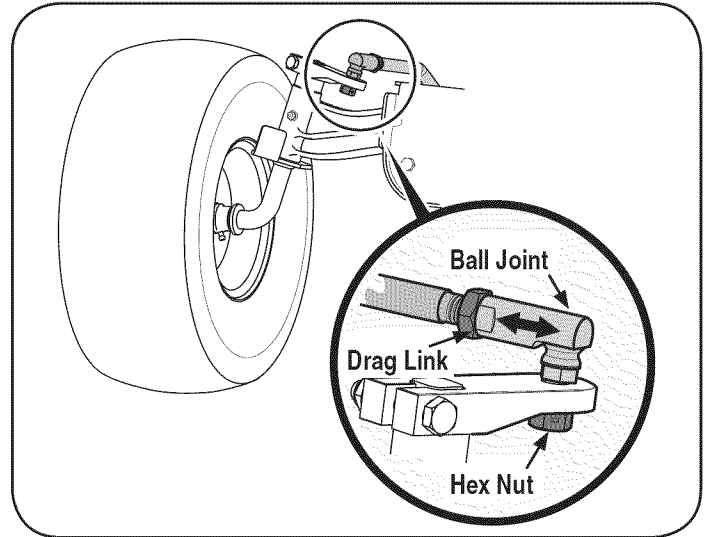

Figure 29
- Remove the hex nut below the ball joint. See Figure 29.